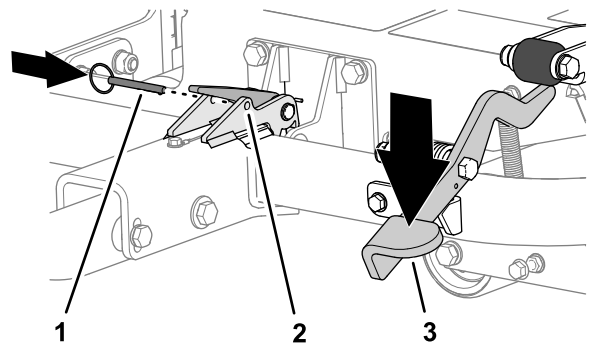

Figure 20
3. Step on the hitch pedal until the hitch locks into place (Figure 20).
4. Insert the locking pin through the holes in the latch (Figure 20).